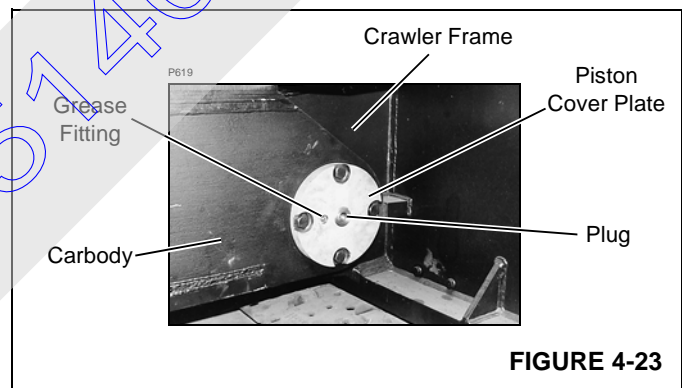

FIGURE 4-23
- a. Pump grease into grease fitting on piston cover plate (Figure 4-23) while holding crawler frame pin switch at DISENGAGE position for 10 seconds.